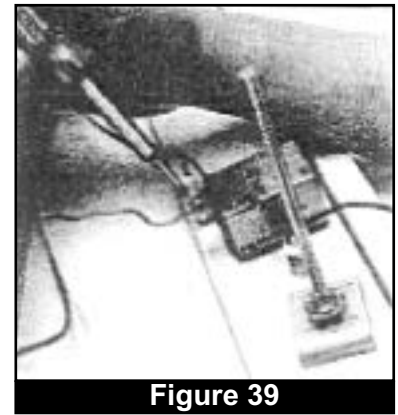

Figure 39
**\*\*NOTE: The tops of the terminals should face down (toward actual top of the heating module). (Fig. 39)**